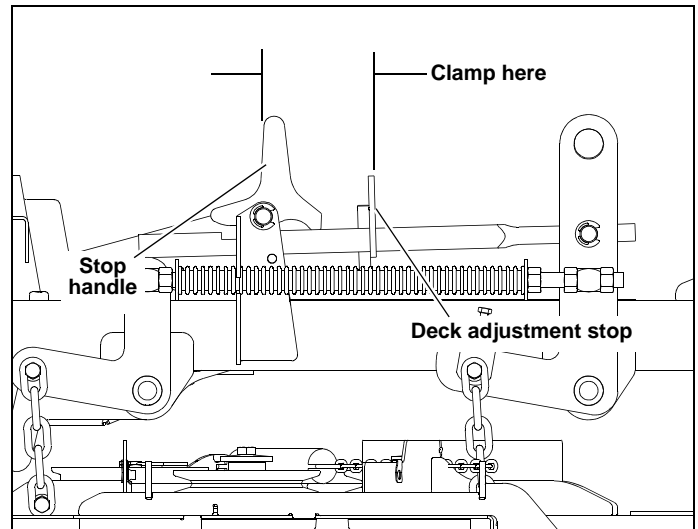

Figure 6-2
5. Clamp the height adjusting stop against the stop handle. This will assure that the height will not move during the setting process. Otherwise, spring pressure from the deck lift springs will tend to pull the stop away from the handle. Figure 6-2